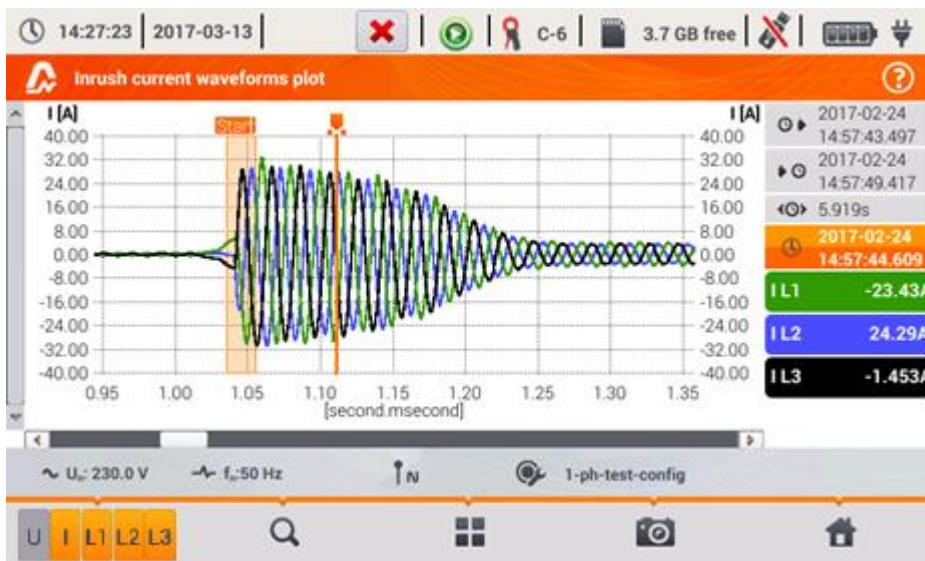

Fig. 42. Inrush current analysis – waveforms plots.
An example of the screen displayed during the start-up of a 3-phase motor is shown in Fig. 42.
- plot of inrush waveforms (Fig. 42; option available in the view of a plot for $RMS_{1/2}$ and as a table).